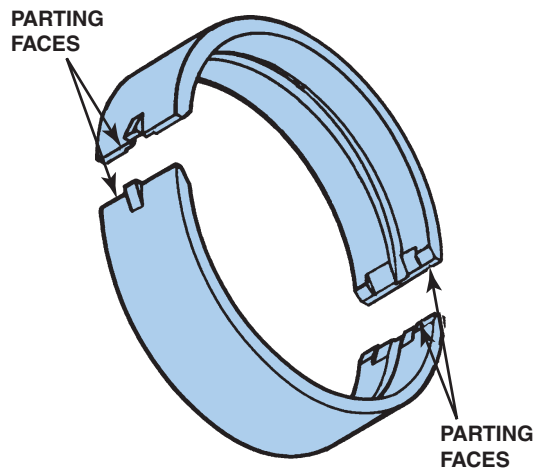

FIGURE 31–29 The two halves of a plain bearing meet at the parting faces.
- **SEE FIGURE 31–29.**
Most bearing halves, or shells, do not have uniform thickness. The wall thickness of most bearings is largest in the center, called the **bearing crown**. The bearing thickness then tapers to a thinner measurement at each parting line. ● **SEE FIGURE 31–30.**